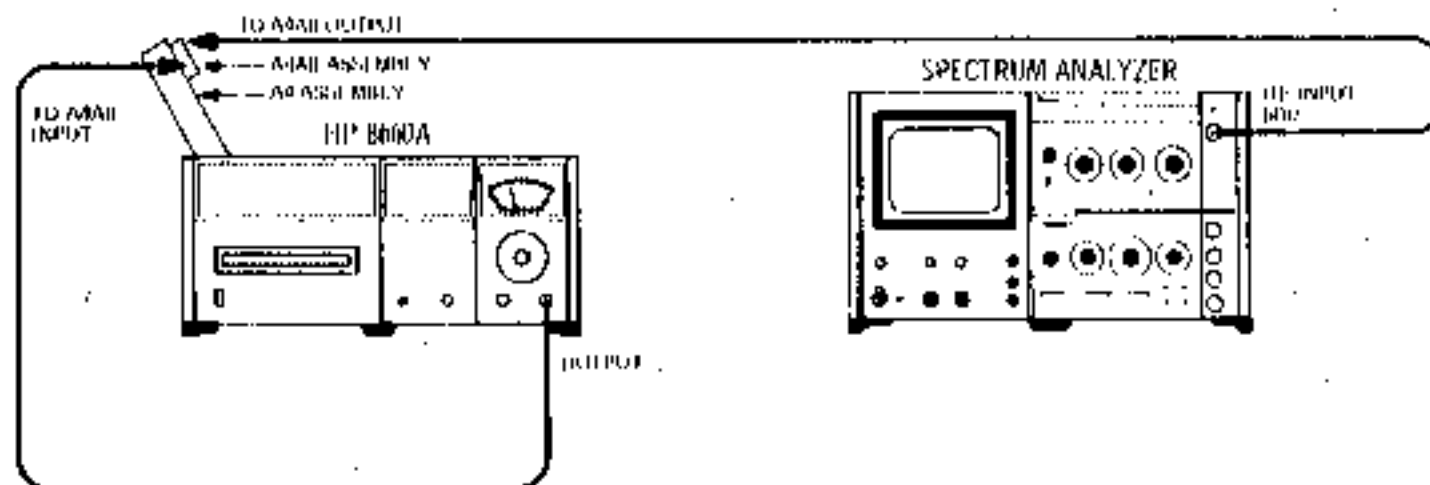

Figure 5-6. 100 MHz Band Pass Filter Adjustment Test Setup
- j. Connect the equipment as shown in Figure 5-6. If necessary, readjust the analyzer controls to center the 100 MHz signal on the display.